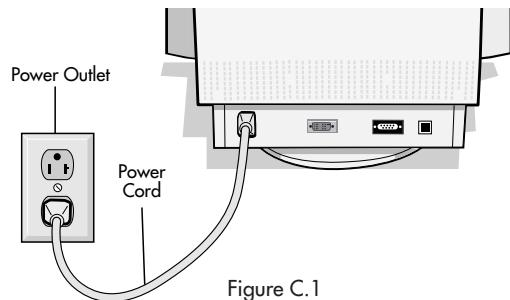

Figure C.1
3. Connect one end of the power cord to the MultiSync FP1350X monitor and the other end to the power outlet (**Figure C.1**).